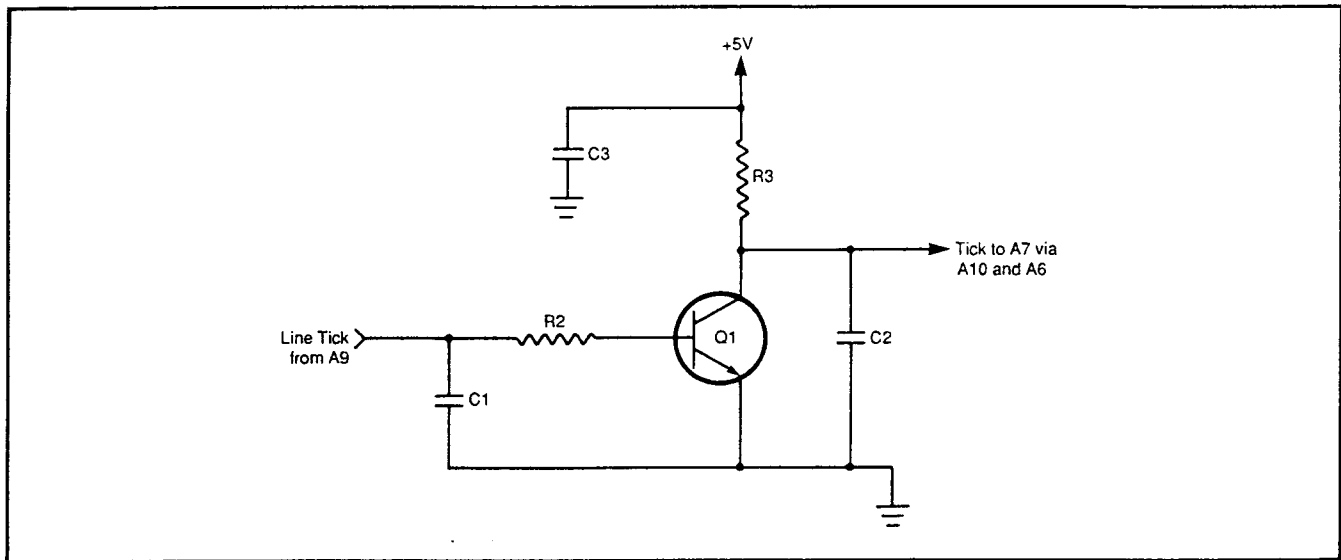

Figure 8-91. Tick Signal Squaring Circuit
1. Line Tick Circuit. The line tick is a synchronization pulse that stabilizes the display on the CRT. This pulse comes from the A9 PCB and goes to the A7 PCB via the A10 and A6 PCBs. The line tick circuit is shown in Figure 8-91.